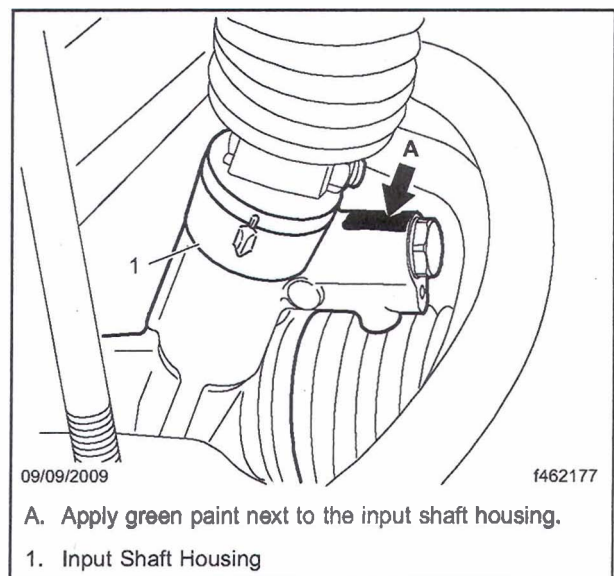

Fig. 10, Paint Mark Location
30. Using *green* paint, mark the top of the rack and pinion gear near the input shaft to indicate that the gear has been repaired. See Fig. 10.